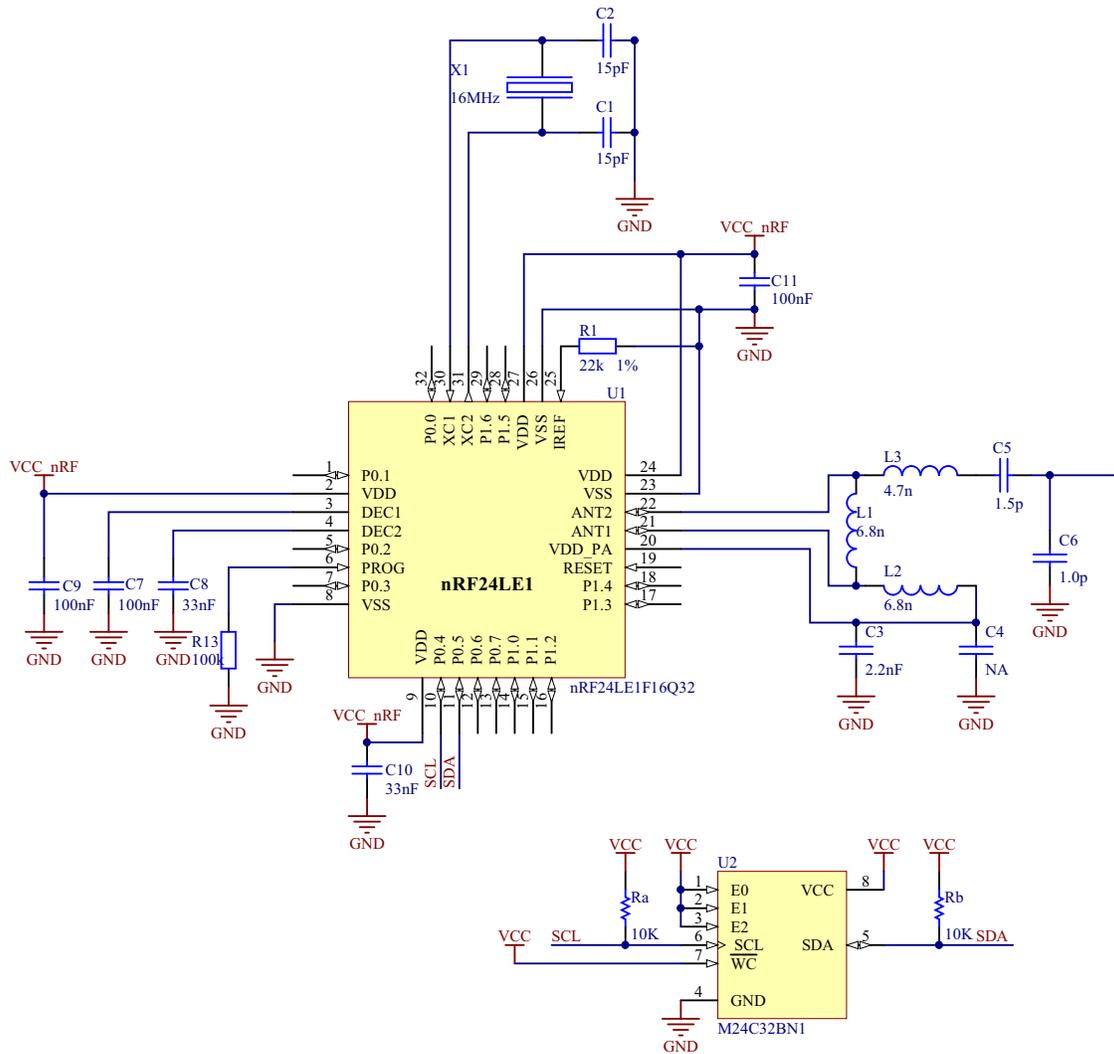

Figure 6. Schematic for nRF24LE1 with I²C EEPROM
Figure 6. on page 8 shows a connection between the nRF24LE1 32-pin and the M24C32. The WC signal is set high, disabling the write protect feature. By connecting the WL signal to GND, the EEPROM can be write-protected in hardware. By making the connection a solder point or switch, the hardware write-protection can be activated after a certain time (after the necessary data is written to the device). E0, E1 and E2 are all set high, which sets the I²C address of the memory module to 0x57.
- The I²C device is connected as shown in Figure 6. on page 8, and that that the pull ups are in place.